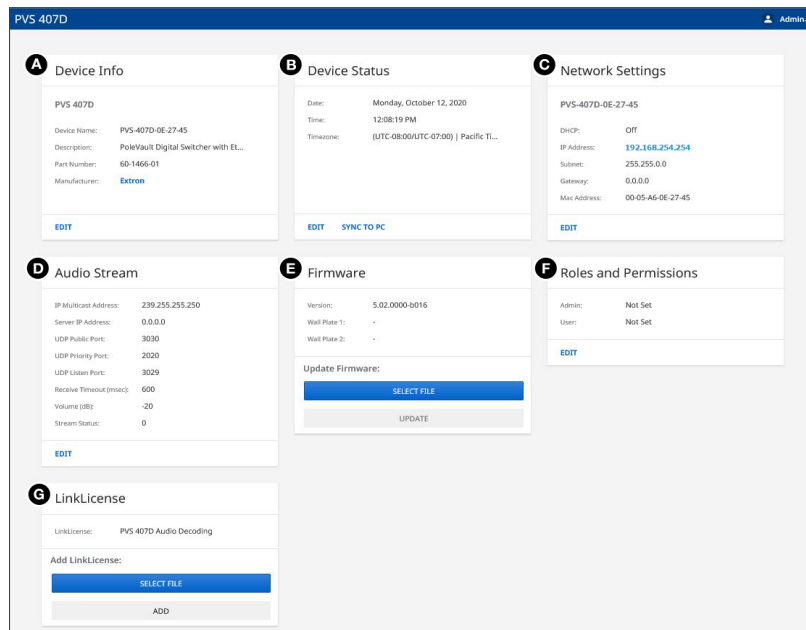
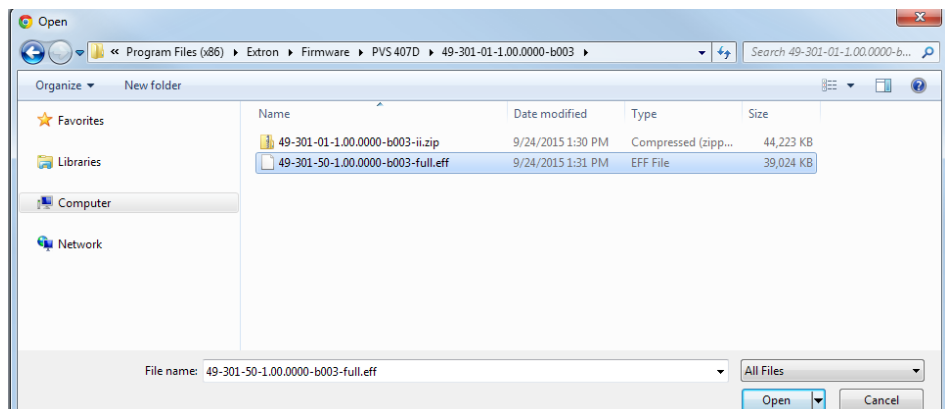

Figure 27. Internal Web Page Example
Figure 32. Explorer Window
The PVS 407D default web page (see figure 27) has seven panels:
The **Device Info** panel (see figure 27, **A**, on the previous page) shows the current device name, description, part number, and manufacturer. By clicking **EDIT** on the bottom of that panel, the **Device Info Settings** dialog box (see figure 28) opens and allows you to change only the **Device Name**.
The **Device Status** panel (see figure 27 on page 47) shows the date, time, and time zone for the connected switcher, and allows the user to either synchronize the date and time to a connected PC or set the date and time manually.
The **Network Settings** panel (see figure 27 on page 47) shows the current network settings for the PVS 407D. To change the TCP/IP settings, click **EDIT** to access the **Network Settings** dialog box (see figure 30).
The Audio Stream panel (see figure 27 on page 47) shows the current audio stream settings for the PVS 407D. In this example, the settings are shown **after** the LinkLicense is installed. (Refer to LinkLicense on page 53 for installation information.)
- **IP Multicast Address** (C): Enter a Multicast address on which to receive an audio stream on the defined UDP Public or Priority port. Default: **239.255.25.250**.
- **Server IP Address** (D): Enter the IP address of the GlobalViewer Campus Communication Suite (GVCCS) server PC. Default is **0.0.0.0**.
- **UDP Public port** (E): Enter the port number for receiving a UDP stream. Set UDP port to a value between **1024** and **65535**. UDP Port numbers **0** to **1023** are reserved and cannot be assigned. Default is **3030**.
- **UDP Priority port** (F): Enter the port number for receiving a priority UDP stream. Set UDP port to a value between **1024** and **65535**. UDP Port numbers **0** to **1023** are reserved and cannot be assigned. Default is **2020**.
- **UDP Listen port (G)**: Enter the port number for sending data to the GlobalViewer Campus Communication Suite (GVCCS) server PC. UDP Port numbers 0 to 1023 are reserved and cannot be assigned. Default is 3029.
- **Receive Timeout (msec) (H)**: Enter the duration when the next incoming UDP packets are not received in a timely manner for the session to be closed. Minimum is 600 msec and maximum is 5000 msec. Default is 600 msec.
- **Volume (dB) (I)**: Adjust the volume slider to set the audio stream volume level.
- **Stream status**: Shown in **figure 27** on page 47, this displays the audio stream status of 0 = idle and 1 = currently streaming.
The **Firmware** panel (see **figure 27** on page 47) shows the current firmware version and when it was last updated to the PVS 407D.
2. On the **Firmware** panel (see **figure 27** on page 47), click **Select File**. This opens an Explorer window (see **figure 32**).
The **Roles and Permissions** panel (see figure 27 on page 47) gives the user access to set the admin and user passwords for the PVS 407D switcher. To change them, click **EDIT** to access the **Roles and Permission Settings** dialog box (see figure 34).
The LinkLicense panel (see figure 27 on page 47) shows the status of the LinkLicense as well as lets the user add a LinkLicense.